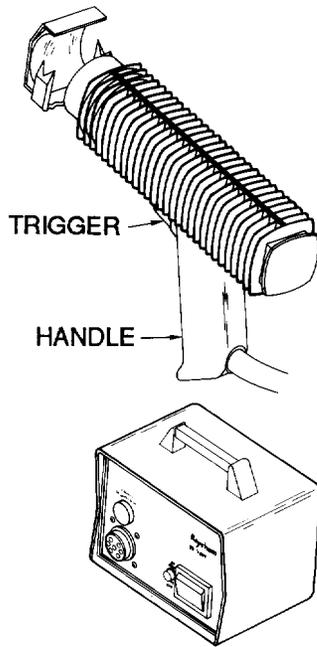

Figure 14. Infrared Heating Tool, IR-1759 with Standard Electronic Control ED-7-004
43. MiniRay infrared heating tool, IR-1759 (Figure 14), is a small, lightweight, medium-duty hand heating tool
44. **PRE-OPERATION.** Prior to using infrared heating tool (Figure 14), proceed as follows:
48. **OPERATION.** To operate infrared heating tool (Figure 14), proceed as follows:
49 . **POST-OPERATION.** After using infrared heating tool (Figure 14), proceed as follows: